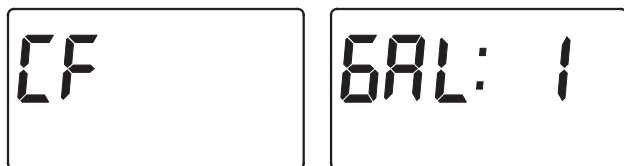

FIG. 24
- 4. CHEMICAL FEEDER TRIP VOLUME:** If you have set the auxiliary output control to CF (Chemical Feeder), you will need to set the volume of water which must flow past the turbine before the auxiliary output is turned on. With the alternating screens in Fig. 24 shown, use the \triangle UP or ∇ DOWN buttons to set the trip volume, in gal-